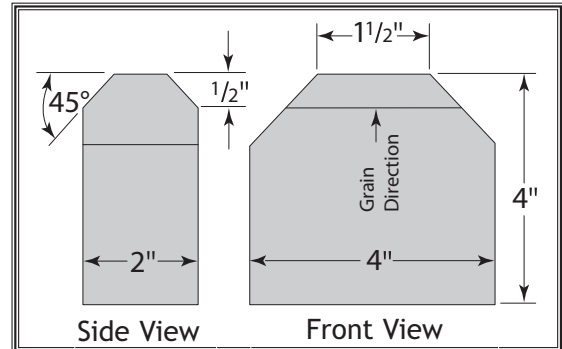

Figure 54. Gauge block plans.
3. Refer to **Figure 54**, and make a wooden gauge block as outlined.